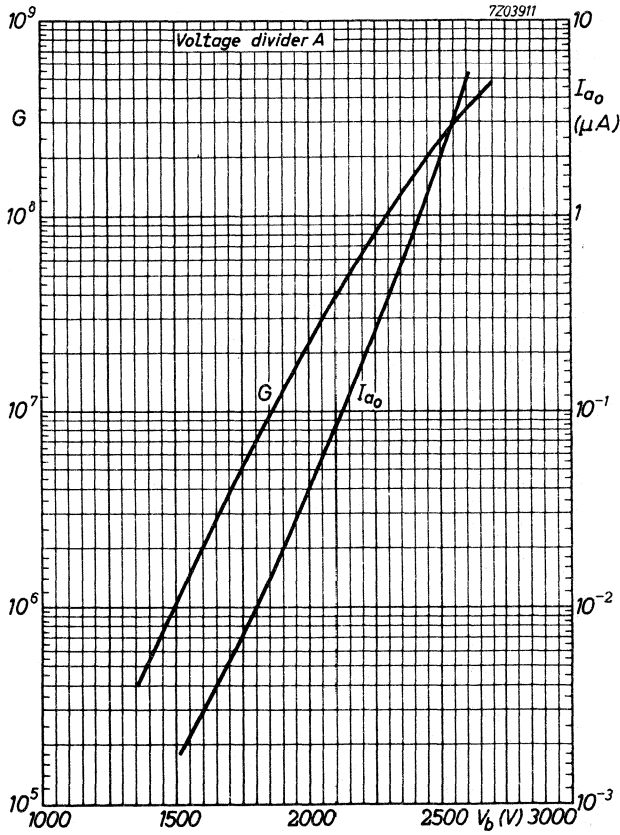

Fig. 3
B. The multiplier system consists of 12 stages, providing a total current amplification of 10^8 at about 2500 V (see figures 3 and 4).
It should be noted that at equal high tensions the gain of the tube is smaller for voltage divider type B than for one according to type A. (See figures 3 and 4.)